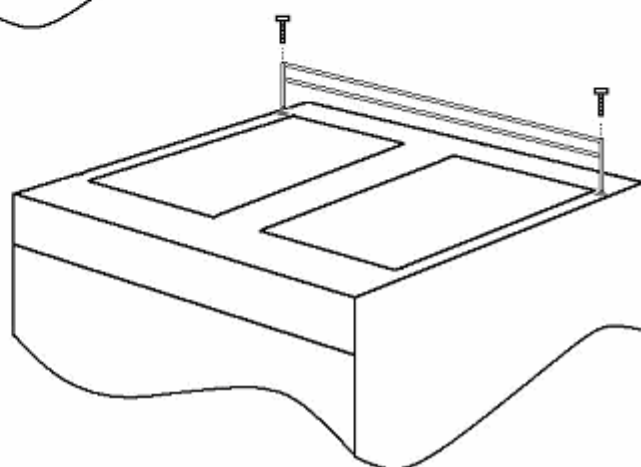

Fig. 7
3. Remove the two screws towards the front of the cooker and fit the front fiddle rail.(fig 7)